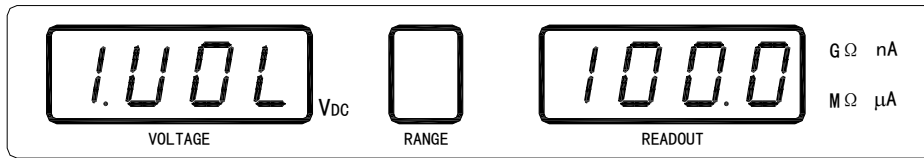

Figure 3-7 Main Setup Menu
- 1) Press **SET/ENTER** key in the discharge status to enter the main setup menu as shown in the following figure 3-7.